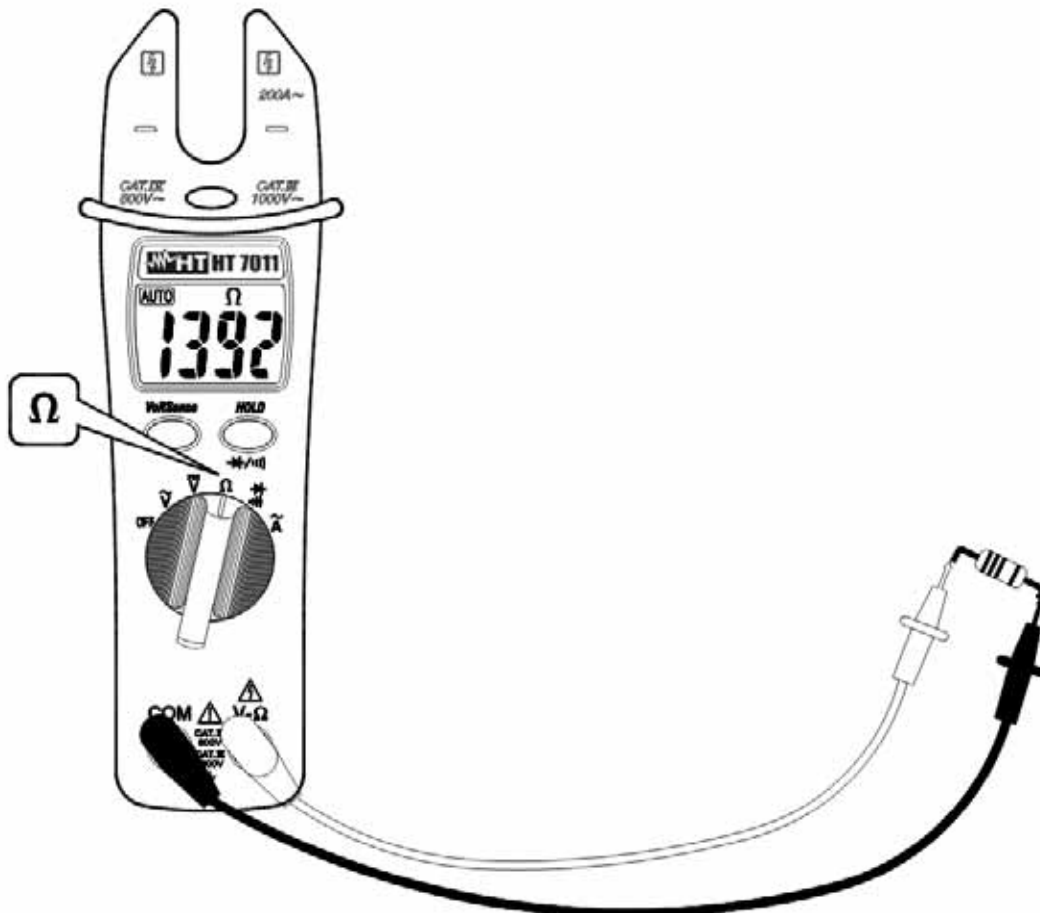

Fig. 6: Taking resistance measurement
3. Connect the two long ends of test leads to the desired circuit (see Fig. 6) then reading value of resistance will be displayed.